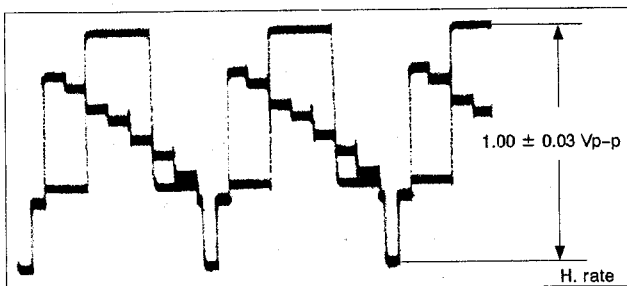

Fig. 3-1-15 S PB Y level
- 3) Adjust R35 for 1.00 ± 0.03 Vp-p, as in Fig. 3-1-15.